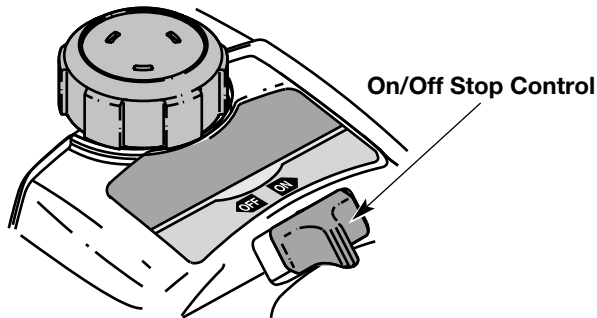

Fig. 7
2. Put the On/Off Stop Control in the **ON** position (Fig. 7).
2. Put the On/Off Stop Control in the **OFF** position (Fig. 7).